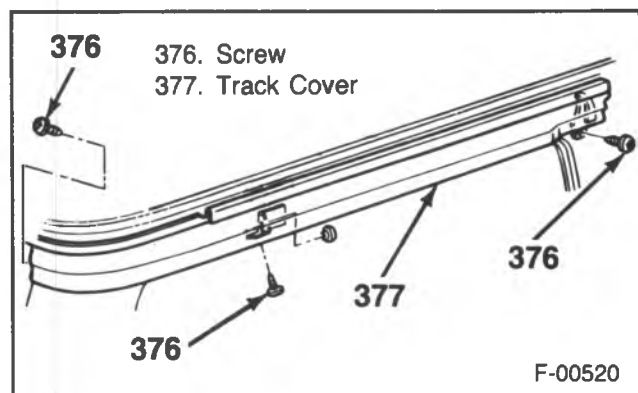

Figure 90 — Upper Track Cover
Remove or Disconnect (Figures 90 through 94)
Install or Connect (Figures 90 through 94)
- 2. Track cover (figure 90).
- 3. Hinge retainer plate (393).
- 4. Nut (390), washer (389), and retainer (380).
- 5. Hinge to door screw (391).
- 6. Hinge to door bolt (388).
- 2. Hinge to door bolt (388).
- 3. Hinge to door screw (391).
- 4. Retainer (380), washer (389) and nut (390).
- 5. Hinge retainer plate (393).
- 6. Track cover (figure 90).